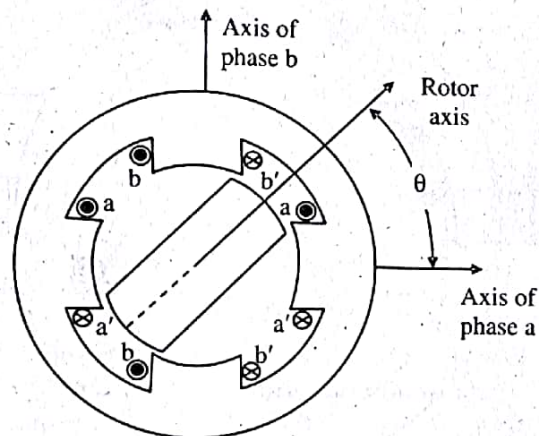

Figure 4.6
- 2) **Doubly Salient Construction:** Unlike singly salient type, the stator of doubly salient Switched Reluctance Motor is of salient construction and consists of four poles as shown in figure 4.6. The rotor does not carry any winding and is of salient construction but has two poles. Thus this type of SRM is a heteropolar motor where the numbers of stator and rotor poles are not same.